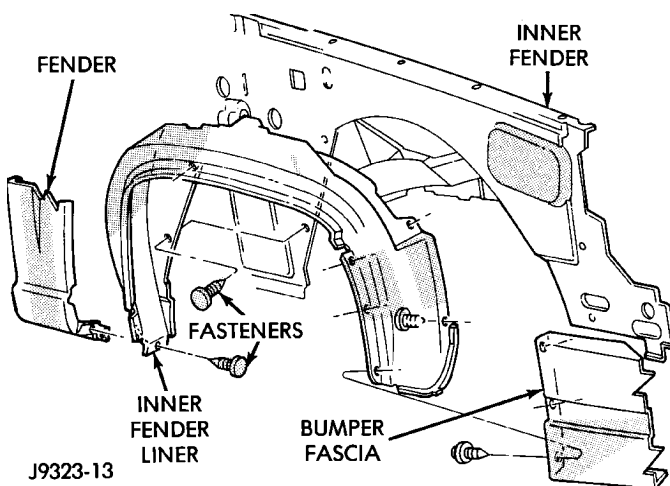
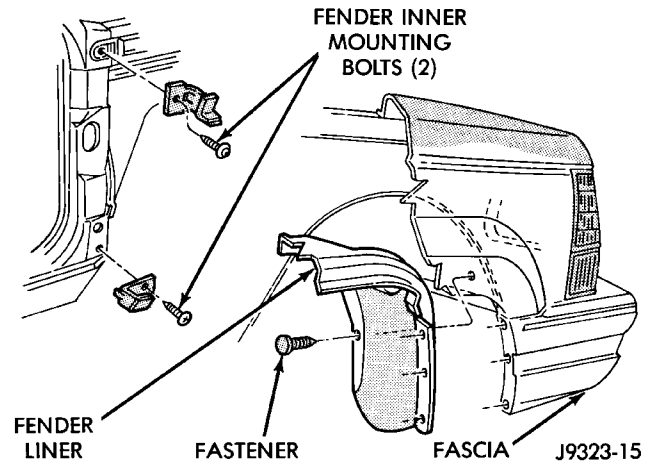

Fig. 10 Inner Fender Liner
Fig. 11 Inner Fender Mounting
- (1) Remove headlamp, side marker and turn signal lamp. Refer to Group 8L, Lamps for service information.
- (2) Remove front bumper fascia. Refer to Group 13, Frame and Bumpers for service information.
- (3) Remove front wheel.
- (4) Remove fasteners attaching inner front fender liner to fender and inner fender (Fig. 10).
- (5) Remove inner fender liner.
- (6) Right fender only:
- (7) From inside wheel well, remove bolts at rear of fender reinforcements (Fig. 11).